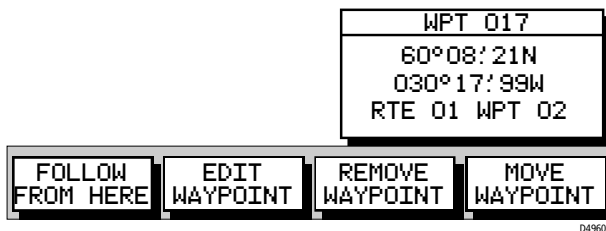

Figure 3-39: Waypoint Data Box and Soft Keys
- To display information about a route waypoint, move the cursor over the waypoint until the letters WPT appear. The Waypoint Data Box is displayed with the Follow Route soft keys as shown in *Figure 3-39*.